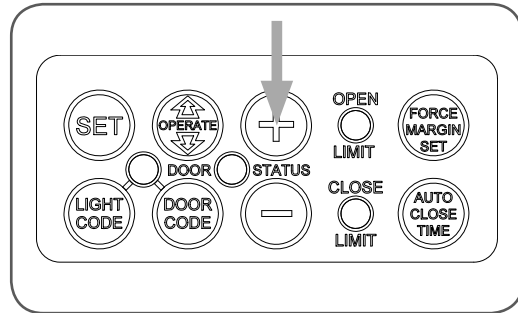

fig 45
- Press and hold the OPEN button (**Fig 45**) for six (6) seconds until the OPEN and CLOSE LED's are lit to record the new pet position.